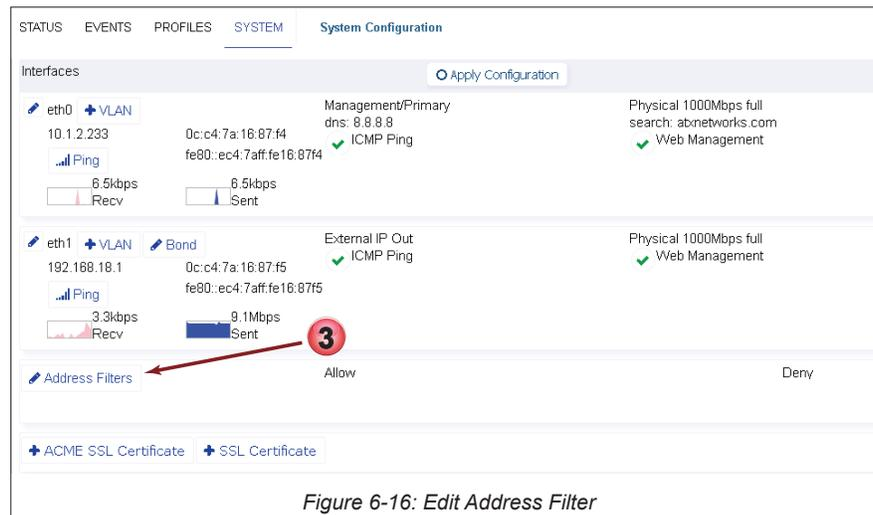

Figure 6-16: Edit Address Filter
3. Click the **Edit Address Filters** Address Filters button, Figure 6-16.